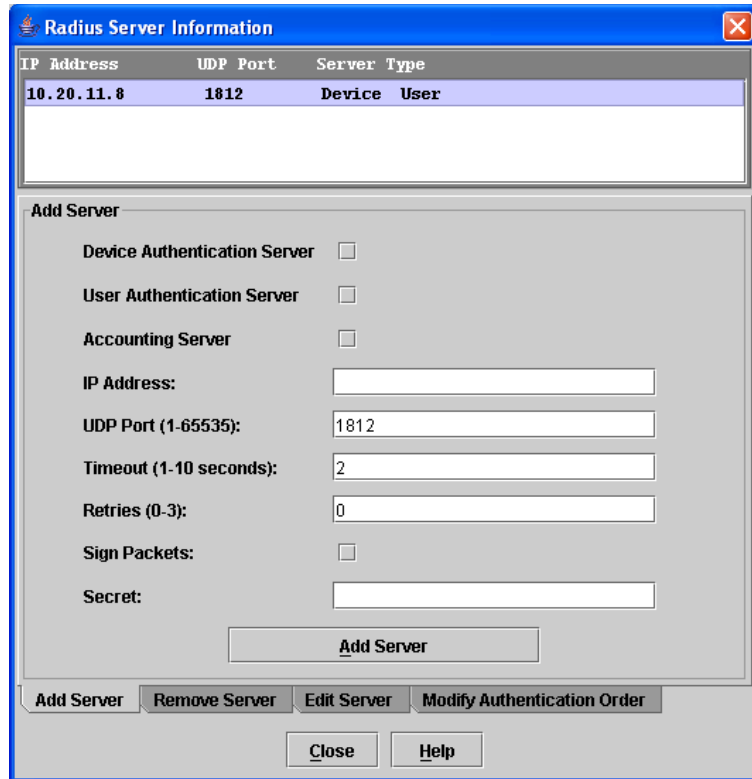

Figure 2-10. Add Server
2. In the Radius Server Information window, shown in Figure 2-10, click the **Add Server** tab.